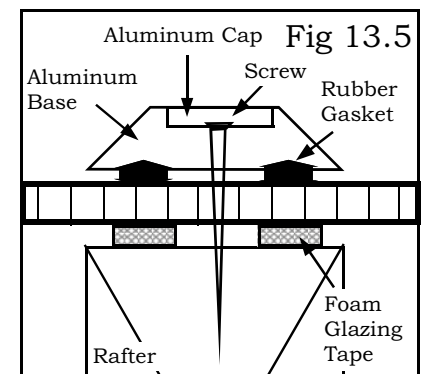

Fig 13.5
- C. On framing where rafter is in the middle of the panel (**fig 13.5**):